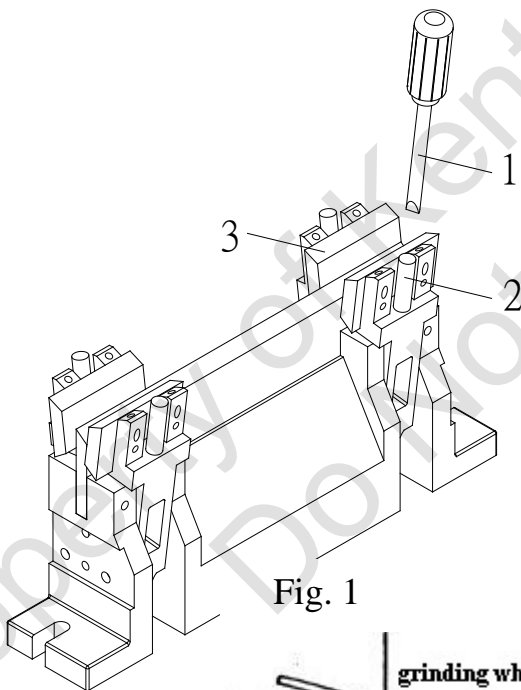
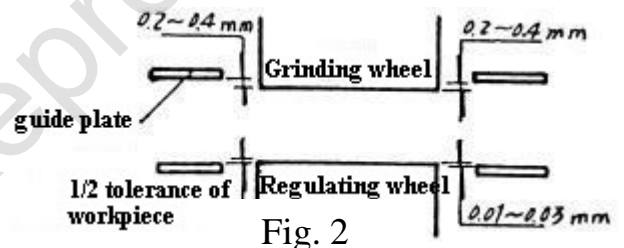
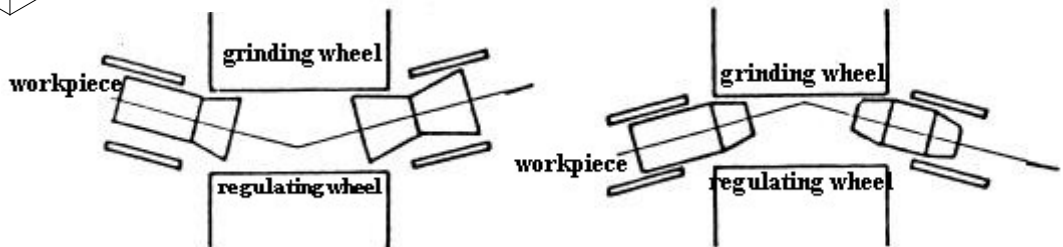

Fig. 1
Fig. 2
Fig. 3
The regulation of thrufeed guide plate is shown in (fig. 1). Turn regulating screw (2) by screwdriver (1) to make guide plate (3) close or open to match workpiece size where regulating scale is shown on (fig. 1). The guide plate should be parallel to both grinding wheel and regulating wheel and the entry of regulating wheel's edge is $1/2$ tolerance of workpiece. The exit edge has the gap of 0.01 to 0.03mm and both entry and exit of grinding wheel's edge takes gap of 0.2 to 0.4mm (fig.2). The test method is to put a finish-grounded workpiece to move from entry to exit back and forth to ensure that it is passed smoothly and moves in one direction. If guide plate and regulating wheel are not on the same line, workpiece will become concave or convex as in fig. 3.